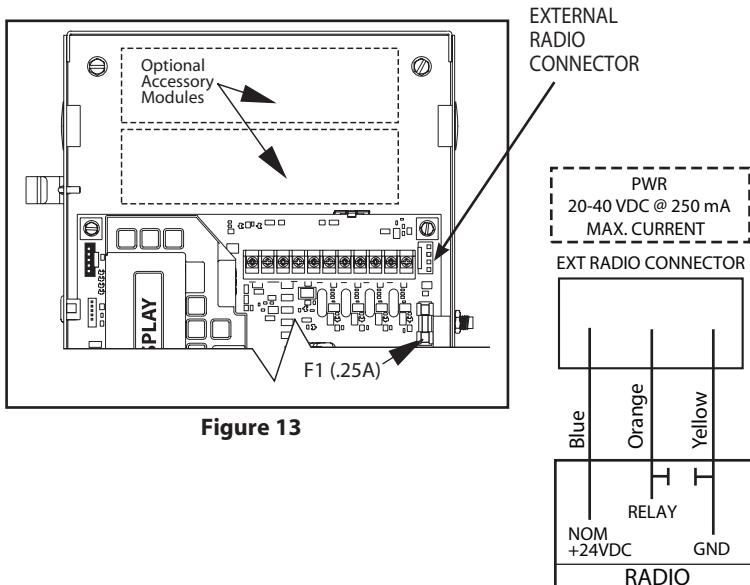

Figure 13
- 1) Plug the 3-wire pigtail (provided) onto the plug connector marked "EXT RADIO." **Fig. 13.**